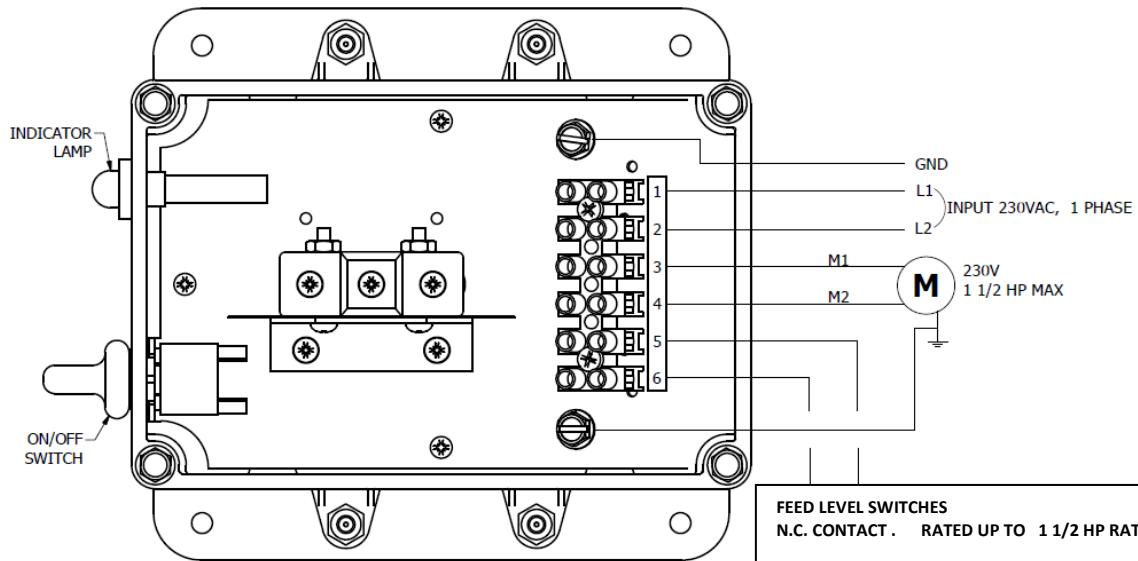

Figure 4
2. See below instructions Figure 4 and 5 for external wiring for single phase and three phase operation.
5. If **No Hopper Level Control Switch** is to be used, Place jumper wire between terminals (5) and (6).